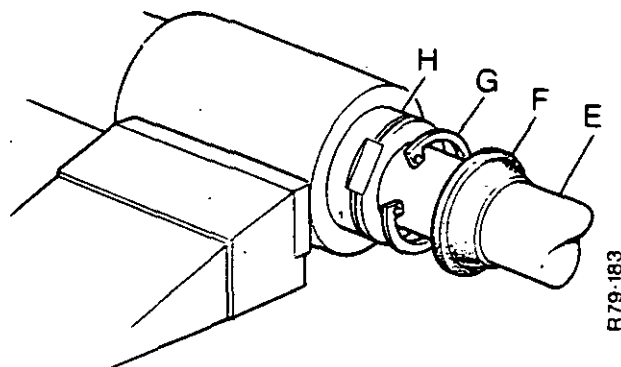

FIGURE 104. DISASSEMBLY OF THE SUPPORT RAM
1. Carefully hold the support ram in a vice as shown in Figure 104. Do not tighten the vice too much.